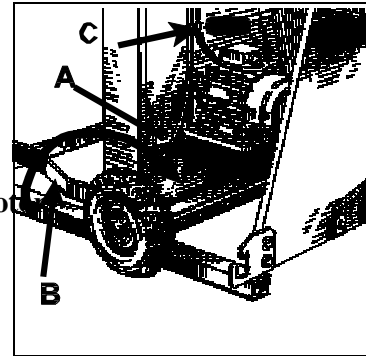

Fig. 10
- Loosen the attachment screw A on the motor rack (Fig. 10).
- Transfer of the machine is really easy using the 25-cm-diameter wheels, which are a standard feature in machines powered by electricity or combustion engine (Fig. 10).